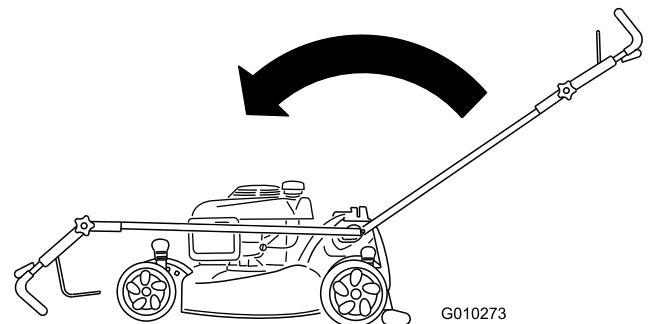

Figure 54
2. Move the handle all the way forward and loosen the upper handle knob (Figure 54).